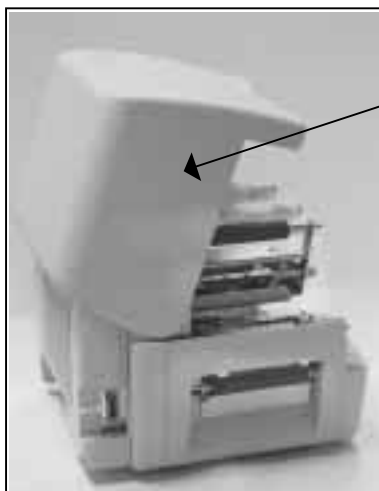

Fig. 6-26
2.	Raise and remove the top cover. Fig.6-26